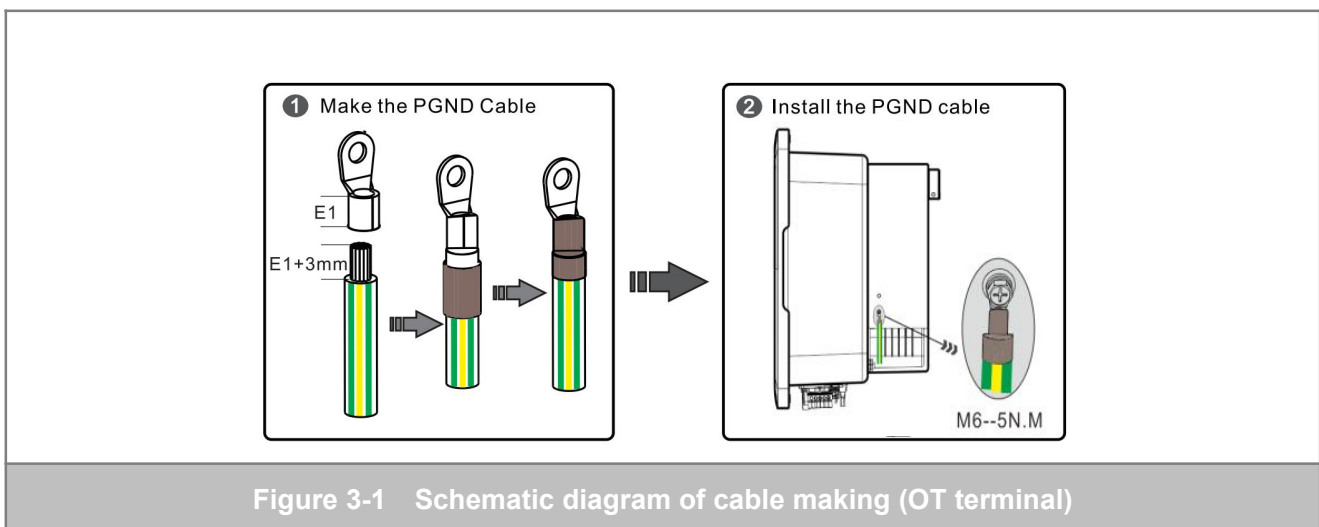

Figure 3-1 Schematic diagram of cable making (OT terminal)
- (1) Strip a section of bare copper core of the ground cable in the corresponding specifications using the wire stripper. Ensure that the length of the bare copper core is 3 mm longer than that of the OT terminal.
- (2) Cover the OT terminal with a heat shrinkable tube in a suitable size. It is recommended that the length of the heat shrinkable tube (withstand voltage $\geq 600V$) be 1.5-2 times the length of the terminal.
- (3) Crimp the OT terminal to the bare copper core using the crimping pliers.
- (4) Blow the heat shrinkable tube tightly using the heat gun to wrap the terminal and cable tightly. At this time, the cable is completely made (the cable making process is shown in Figure 3-1 ①).
- (5) Fasten the OT terminal of the ground cable to the ground interface with M6 screws, with a fastening torque of 5 N.m (For more information, see Figure 3-1 ②).